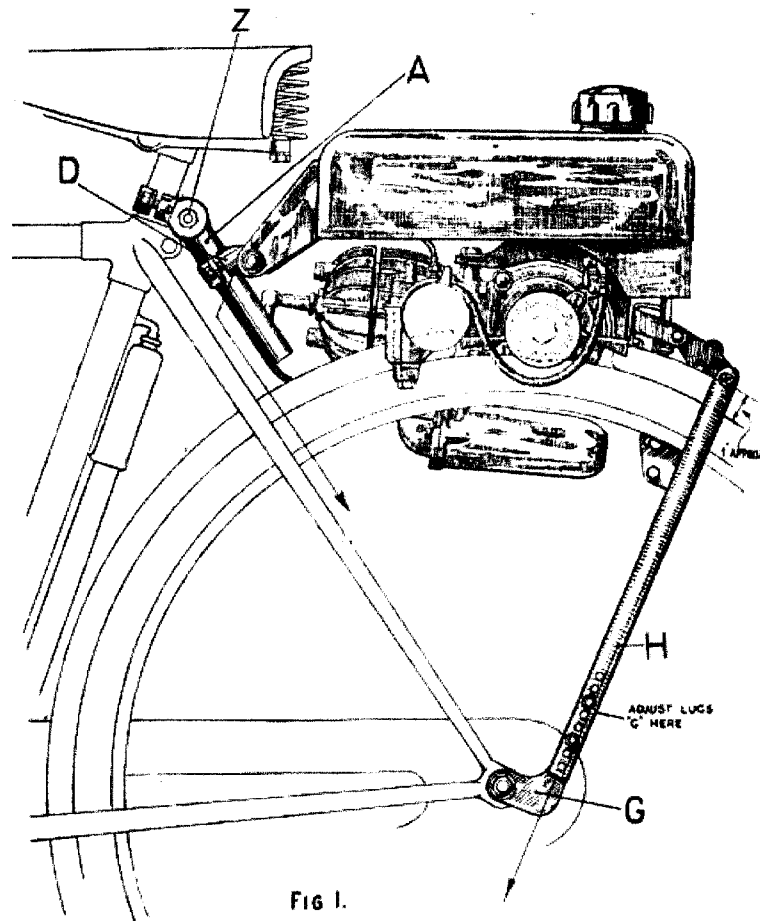

FIG 1.
To increase the pressure of the roller on the tyre, first check to ensure that the tyre is inflated hard. If slippage still occurs, slacken the nut "C" on the elbow lug "D" and slide the lug downwards in the direction of the arrow, Fig. 1. Then retighten the nut "C." If a large amount of adjustment is required, the U-shaped stay should be moved down another notch at "G," Fig. 1.
- (7) Undo the nuts of the wheel spindle and spring the U shaped fork "H" into position. Each branch of the fork carries at its lower end an adjustable lug "G." Fix the position of these lugs so that a space of about 1 in. is allowed between the tyre and the fork. (Fig. 1).
Fig. 1.—To increase the pressure of the roller on the tyre; move the hinge lug "D" in the direction of the arrow for a small increase, or the U shaped fork "H" for larger increases.
- (2) Bring the petrol tank into a horizontal position by adjusting the clamping pieces "Z" on the elbow lug and sliding the hinge "D" up or down the elbow lug as required. (Fig. 1.)